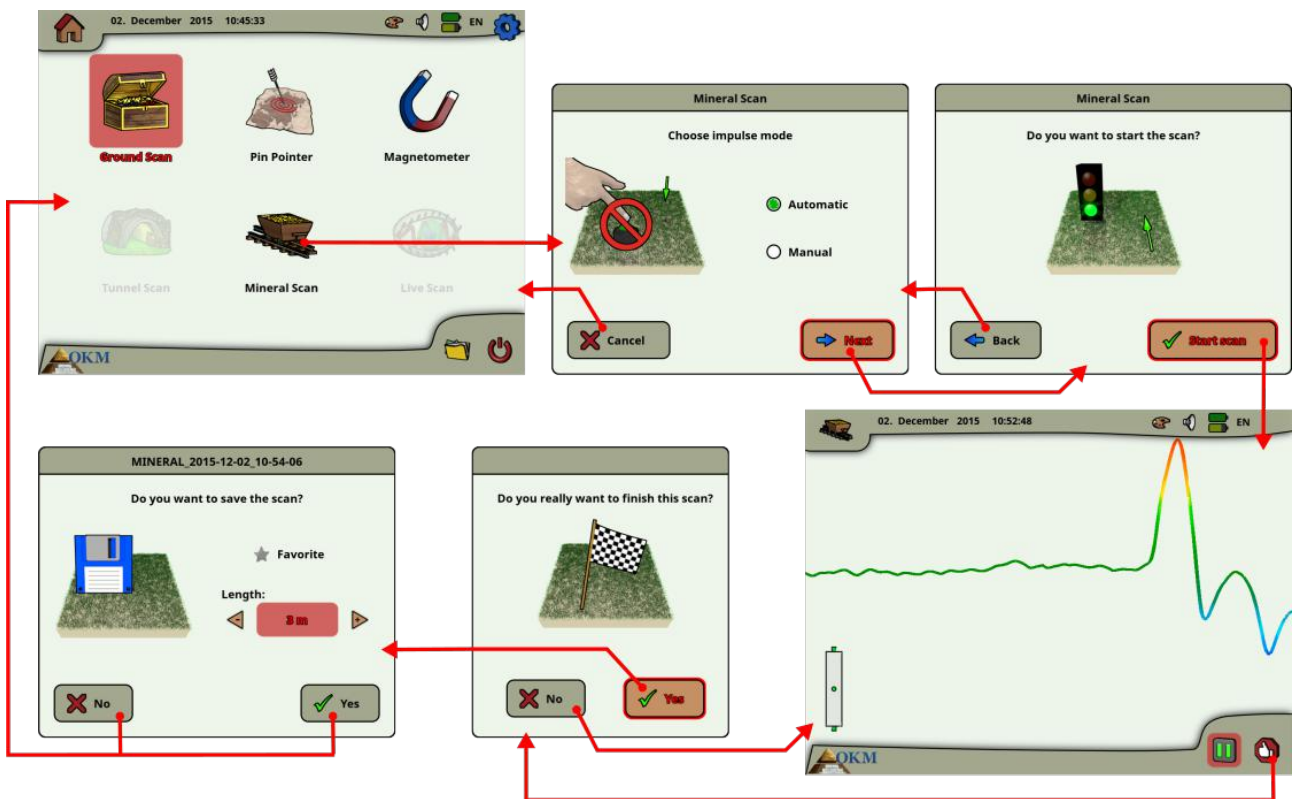

Figure 6.12: Workflow of Mineral Scan
After activating this operating mode you have the possibility to adjust the impulse mode setting. In figure 6.12 you can see the corresponding sub-menu.
- (3) Assemble the eXp 6000 and attach the Super Sensor.
- (4) Start the eXp 6000 and select "Mineral Scan" from the main menu (see Figure 6.12).
- (5) Select either Automatic or Manual for the Impulse Mode depending on the terrain that is to be prospected. Push the multi-function control knob.
- (6) Ensure that your Super Sensor remains the SAME height above the ground and that it remains vertical during the duration of the scan. For areas of rough terrain or difficult to pass, be sure to use the Manual mode. Attempt to maintain the height between 5 cm and 10 cm (2" to 5") above the ground with no more than a  $\pm 5$  cm (2") variance during the scan to receive a good measurement (changing the height of the Super Sensor may give you a false reading).
- (7) The dialog window "Do you want to start the scan?" will appear. Click on "Start scan" to begin scanning. Start moving forward as soon as the button is pushed, do not delay.
- (8) At the end of the scan push the multi-function control knob to stop your scan (be careful to not shake the Super Sensor when pushing the button to start or stop for it can have a negative effect on the scan).
- (9) The dialog window "Do you want to save the scan?" will appear. Select "Yes" to save the scan and "No" to not save the scan.